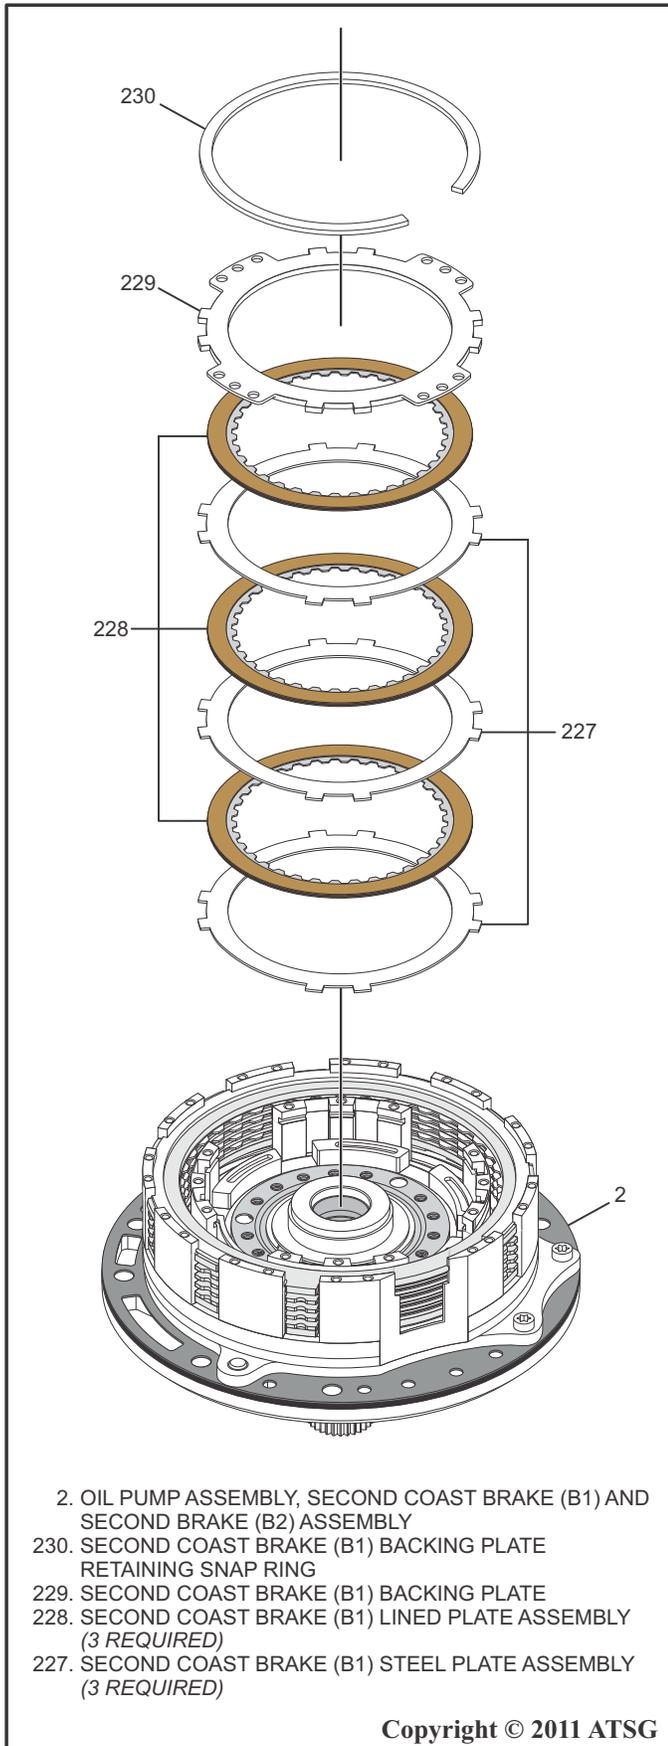

Figure 92
2. Using SST J 23327 Spring Compressor or other similar tool, compress the Second Brake (B2) spring then using SST J28585 or a small screw driver remove the Second Coast Brake (B1) Backing Plate Retaining Snap Ring, the Second Coast Brake (B1) Backing Plate, the Second Coast Brake (B1) Lined Plates (*discard the lined plates*) and the Second Coast Brake (B1) Steel plates as shown in Figure 92.